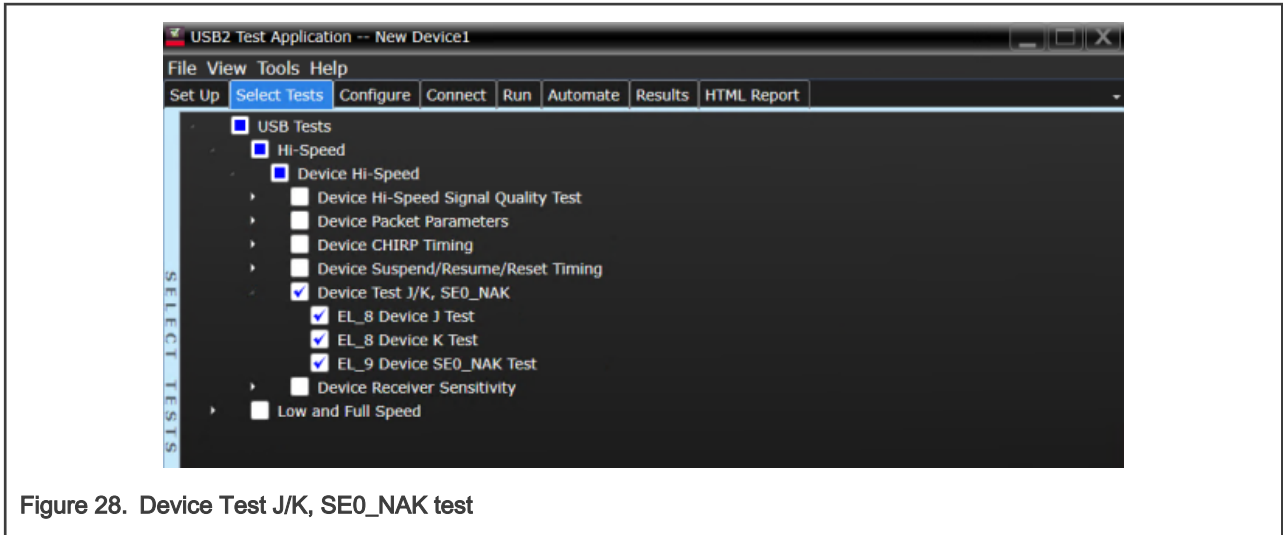

Figure 28. Device Test J/K, SE0\_NAK test
1. Select the test items in the automated test software on the oscilloscope, as shown in Figure 28. There is no need to use an oscilloscope to capture the waveform in this test. To form a complete report, use a multimeter to measure the voltage and input the measurement into the test software.